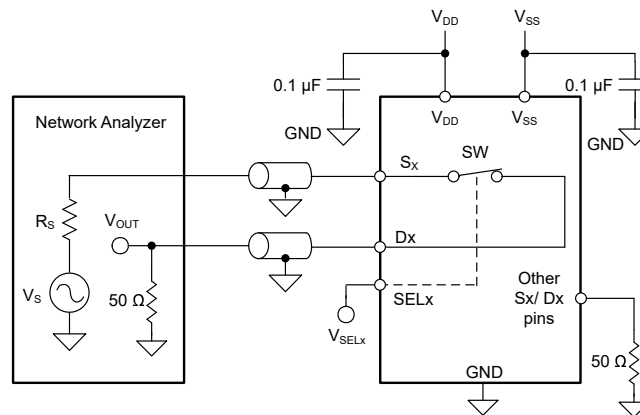

图 8-8. Bandwidth Measurement Setup
Bandwidth (BW) is defined as the range of frequencies that are attenuated by $< 3\text{ dB}$ when the input is applied to the source pin (S_x) of an on-channel, and the output is measured at the drain pin (D_x). 图 8-8 and 方程式 3 shows the setup used to measure bandwidth of the switch.